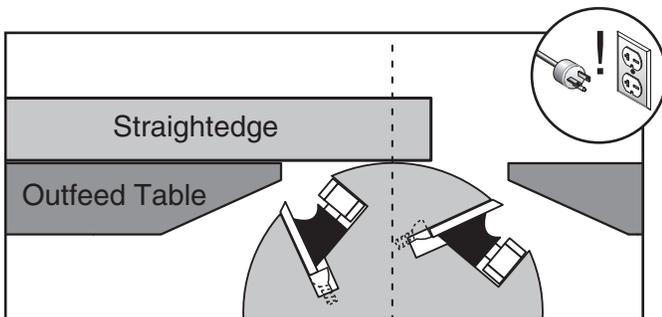

Figure 68. Adjusting outfeed table even with cutterhead body (knife-style cutterhead shown).
4. Rotate motor pulley so that you can access cutterhead body with straightedge between the knives/inserts, as shown in **Figure 68**.